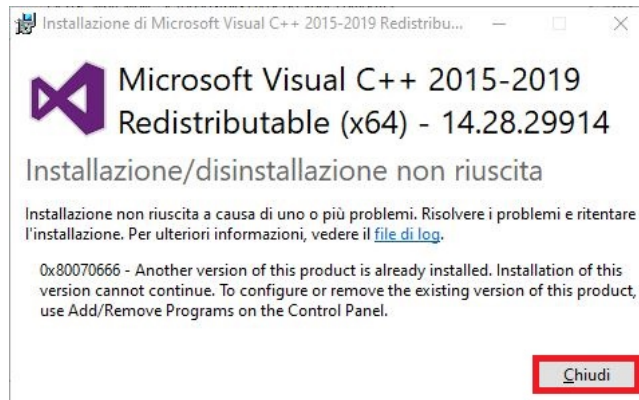

Figure 4.23: Error Message if Already Installed
13. If the package is already installed, click "Close" to close the error message that appears and continue with the installation of other packages, as shown in figure 4.23.